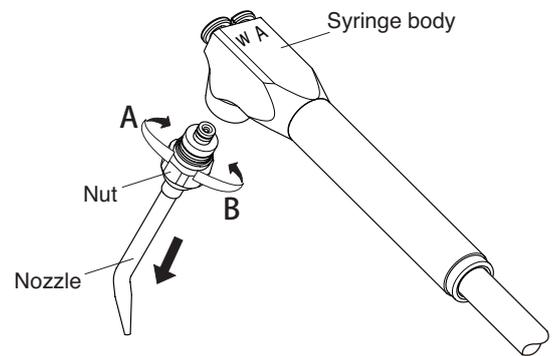

Fig.5-8 Belmont 77 Syringe
3. Belmont 77 Syringe (Fig.5-8)